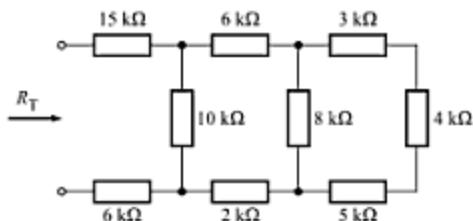

Fig. A-90
- A-53. Find the total resistance R_T of the resistor ladder network shown in Fig. A-90. [Ans. $26.6\ k\Omega$]